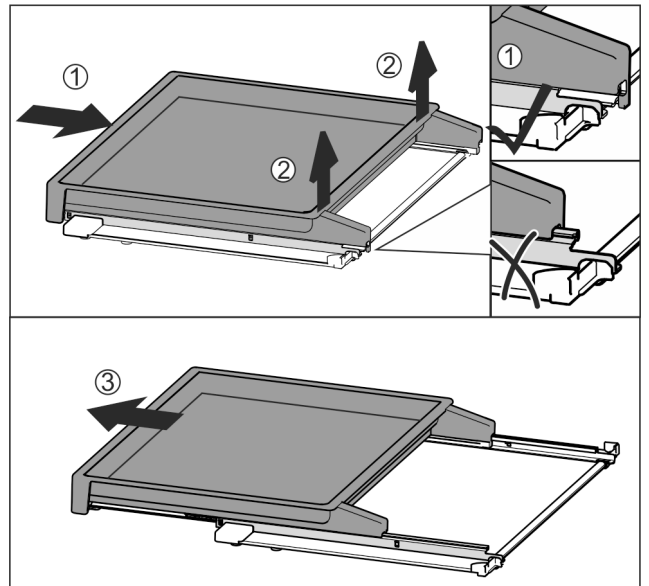

Fig. 114
- ▶ Slide the pull-out board all the way in Fig. 114 (1).
- ▶ Release the clips at the back Fig. 114 (2).
- ▶ Remove the pull-out board from the front Fig. 114 (3).